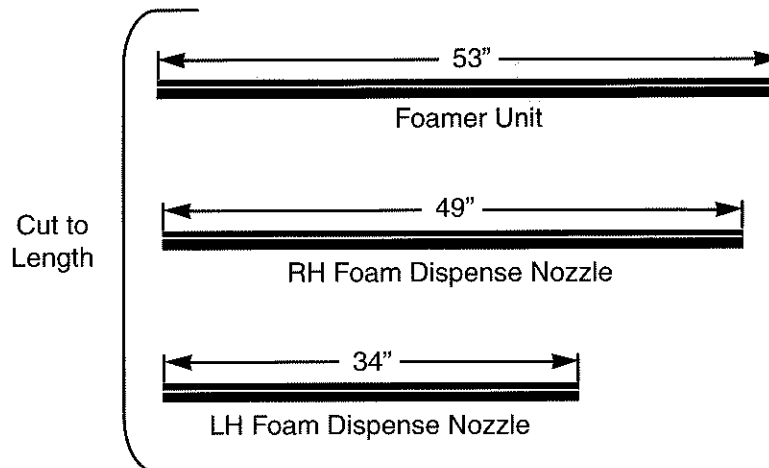

Figure 3. Cut Hose to length.
3. Bulk hose is supplied with this kit and will need to be cut to length for the left and right hand foam dispenser nozzles along with the foamer unit. Cut three (3) pieces to the lengths identified below. See Figure 3.